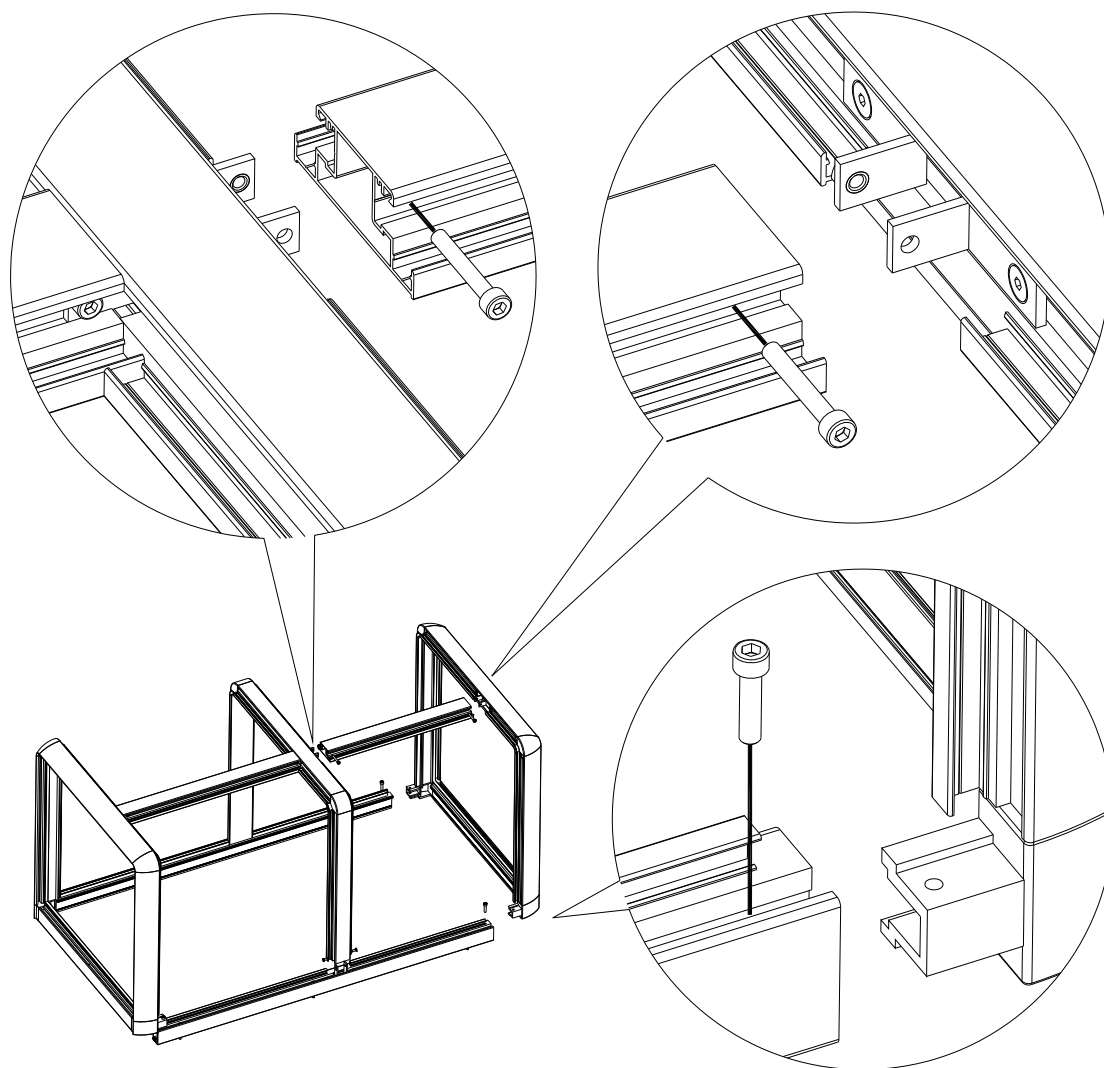

Figure 28: exploded view sound shield Whisper 12 Ultra
- 2 The sound shield can be disassembled according to exploded view below (figure 28).